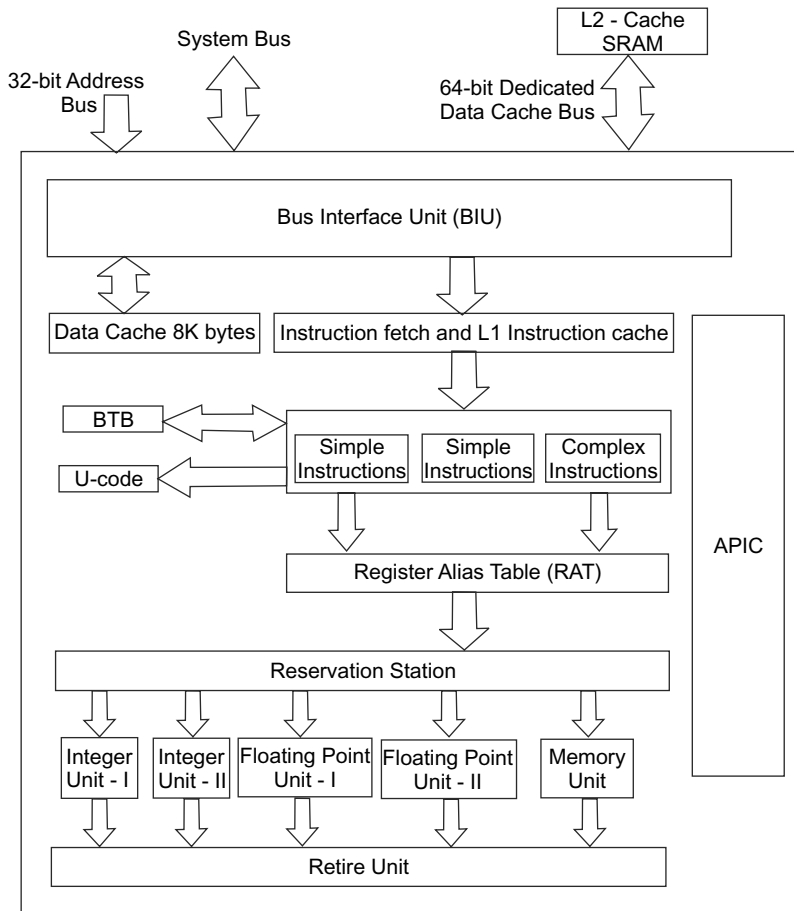

Fig. 12.54 Block diagram of P6 family processors
The block diagram representation of internal architecture P6 family processors is depicted in Fig. 12.54. It is clear from Fig. 12.54 that the P6 family processor has a Bus Interface Unit (BIU), L1 data cache, L1 code cache, instruction fetch unit, instruction decoder, Branch Target Buffer (BTB), Register Alias Table (RAT), Reservation Station (RS), retire unit and on-chip Advanced Programmable Interrupt Controller (APIC).